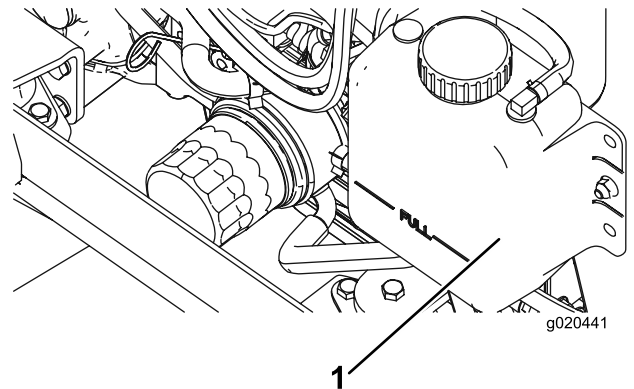

Figure 95
1. Carefully remove the radiator cap and expansion-tank cap (Figure 95).